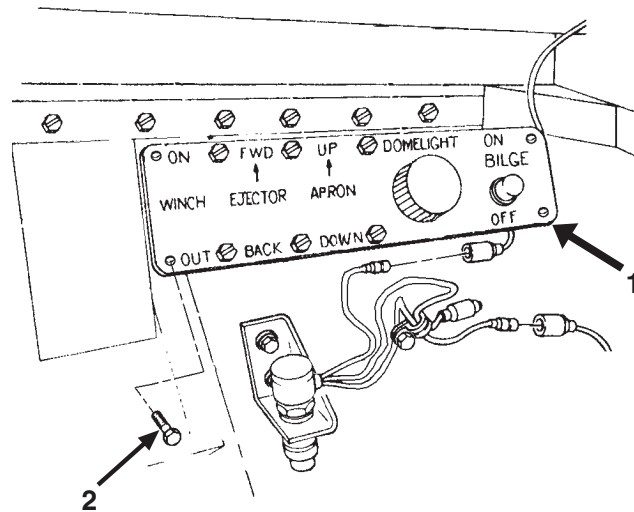

Figure 85. Control Box Power Wiring Harness.
Step 1 applies to Figure 85.
1. Remove four screws (item 2) on ejector panel (item 1) and move panel downward, retaining screws for future use.